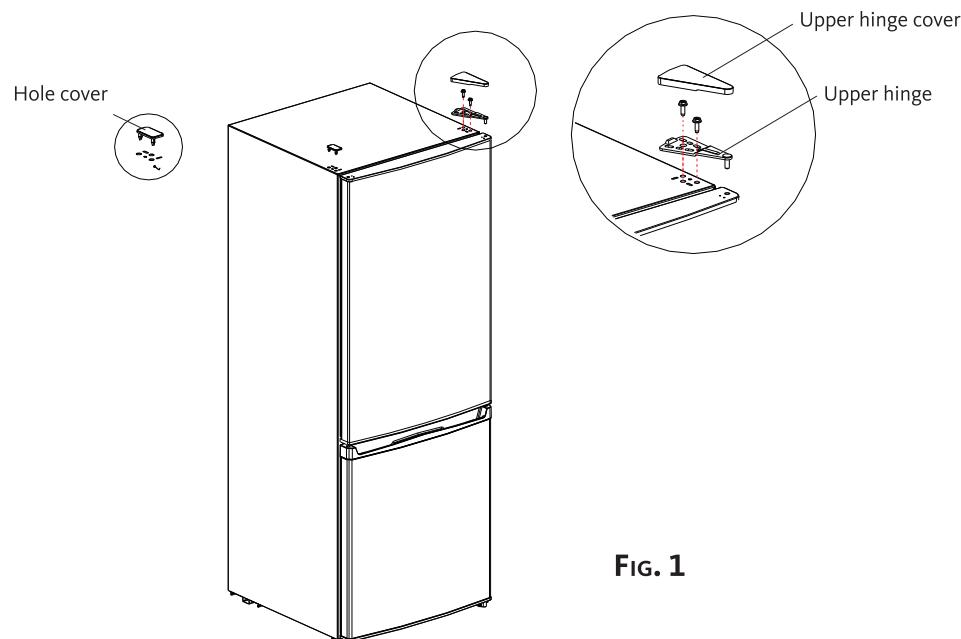

FIG. 1
- Remove the upper hinge cover and the hole cover. While holding the refrigerator compartment door against the appliance, unscrew the upper hinge (see figure 1).